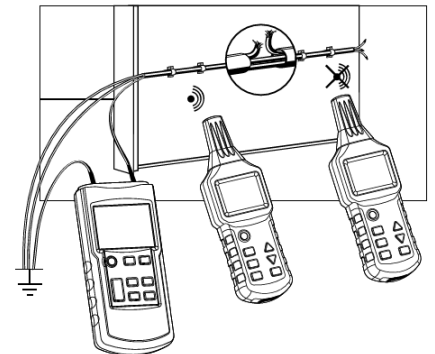

Fig. 3-1-3
- All leads not needed must be connected to auxiliary ground per Fig. 3-1-3.
- Connect the transmitter with a line connection and auxiliary ground per Fig. 3-1-3.